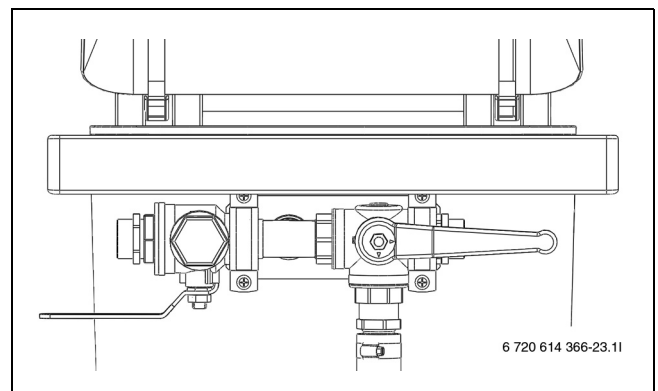

Fig. 29 Filling unit in filling position
- ▶ Turn the valves on the filling station to filling position and fill the circuit with collector circuit fluid (→ Figure 29).